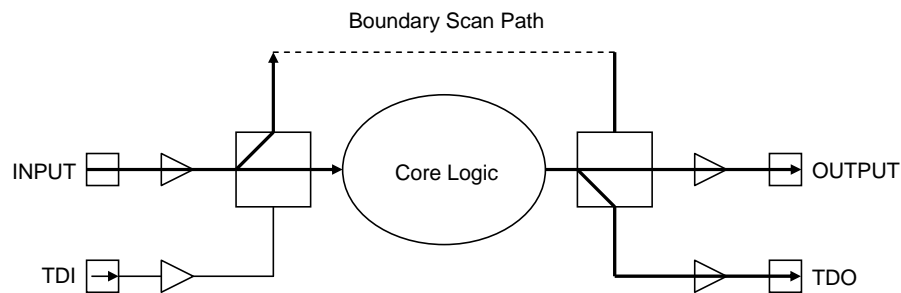

Figure 6.4.2 Test Data Flow While SAMPLE is Selected
- **SAMPLE** allows the input and output pads of an IC to be monitored. While it does so, it does not disconnect the system logic from the IC pins. The SAMPLE function occurs in the Capture-DR controller state. An example application of SAMPLE is to take a snapshot of the activity of the IC's I/O pins so as to verify the interaction between ICs during normal functional operation. The flow of data for the SAMPLE phase of the SAMPLE/PRELOAD instruction is shown in Figure 6.4.2.